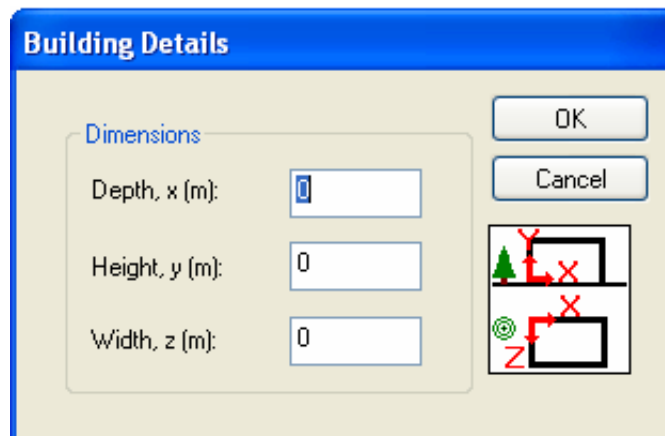

Figure 3 Building Details dialog box.
1. Select the **Structure/Building** menu item. The Building Details dialog box appears as shown in Figure 3.